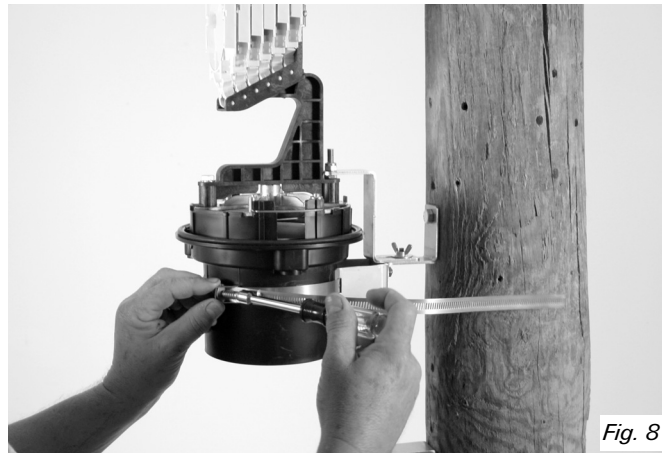

Fig. 7
7. Place the hose clamp into the base bracket. (Fig. 7)